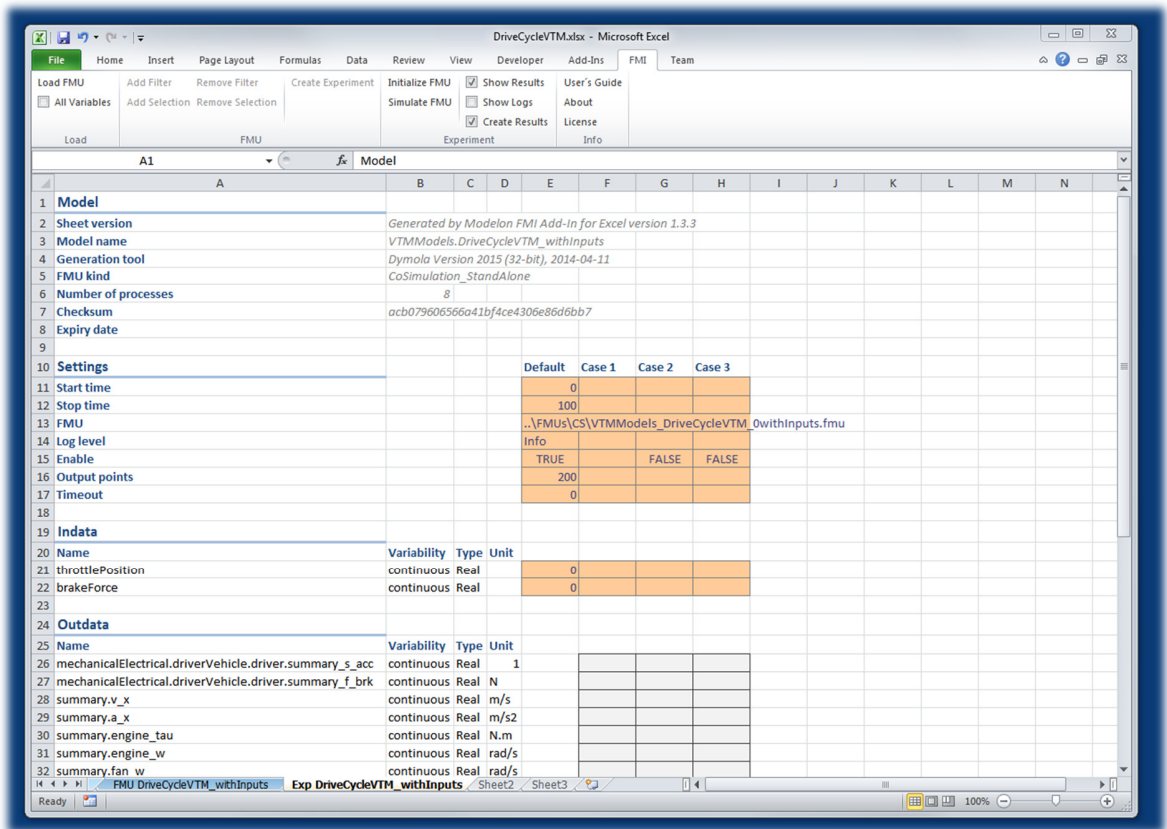

Figure 34 Experiment sheet for the input trajectories
- b. Use the mouse to select the cell for the *throttlePosition* input variable for Case 1 on the experiment sheet. In Figure 34 this cell is F21.